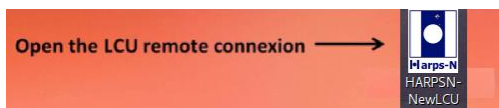

Figure 2 - WSOPER workstation desktop
- a) Click on the **HarpsNLCU icon** (Figure 2), or open a shell from any linux machine and type: